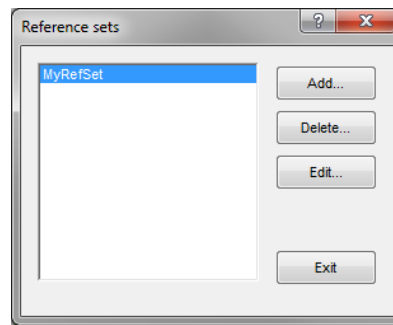

Figure 3.29: The *Reference sets* dialog box to create and edit reference sets.
15.1 In the *Main* window, select **HDA > Edit reference sets** to call the *Reference sets* dialog box (see Figure 3.29).